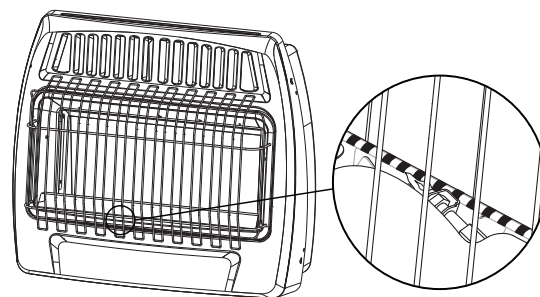

Fig. 24 - Pilot Flame Location
6. With control knob depressed, repeatedly push down the piezo ignitor "⚡" until the pilot lights. The pilot is visible centered below the main burner, behind the front grill. (See Fig. 24)
7. Keep control depressed for (30) seconds after pilot lights. Release control knob.
6. With control knob depressed, repeatedly push down the piezo ignitor until the pilot lights. The pilot is visible centered below the main burner, behind the front grill. (See Fig. 24)
7. Keep control knob depressed for (30) seconds after pilot lights. Release control knob.